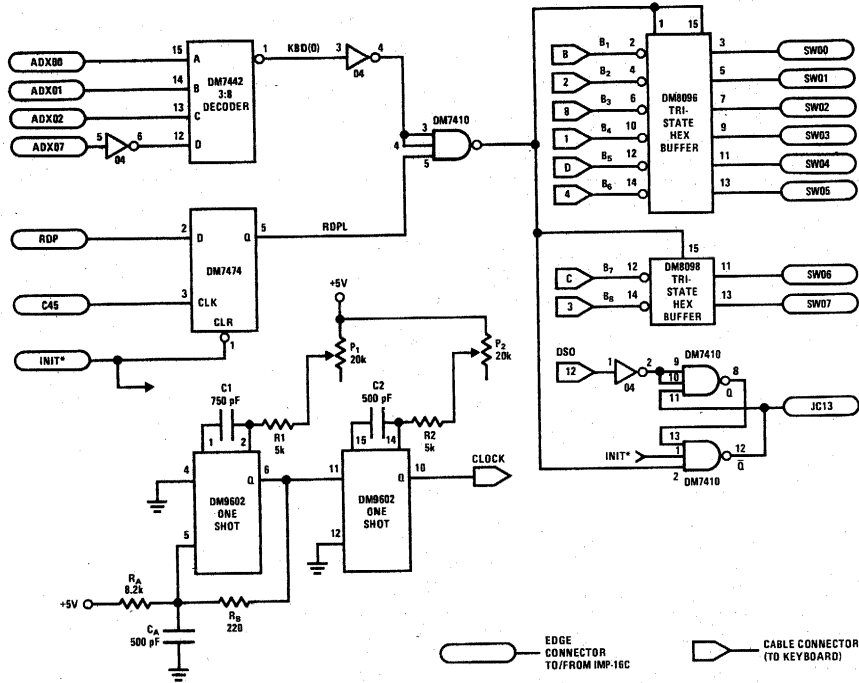
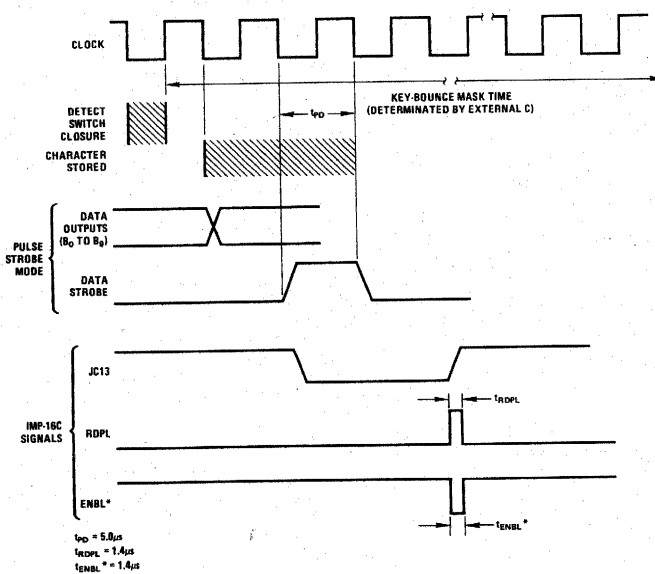

FIGURE 3. Text Editing Keyboard (TEK) Interface Logic for IMP-16C
FIGURE 4. MM5740/IMP-C Timing Diagram
In the following sample interface design the MM5740 chip and several discrete components are mounted on a communications keyboard. A cable from the 40 pin connector on the keyboard to an 8 1/2" x 11" interface board provides the physical communications link to the processor. The interface board has space available for components to implement a cassette and CRT interface for text editing applications. Pages of text could be stored as cassette records, called up by the keyboard and displayed on the CRT. Appropriate keyboard commands could be programmed to edit the page. Lines could be inserted, deleted, copied or moved as required. The finished page could be restored on the cassette. *Figure 3* is a schematic diagram of the keyboard interface logic board.
The BOC instruction is essentially a test for keyboard character ready. The data strobe output (DSO) from the keyboard (cable connector pin 12) is stored in a set-reset latch built from cross coupled NAND gates (see *Figure 3*). This is because the DSO pulse width is one clock period or 5.0µs and the processor might not detect DSO in the required time. Refer to *Figure 4* for IMP-16C/MM5740 timing. The complement output of the latch (Q) is connected to jump condition 13 (JC13). The BOC instruction tests for JC13 and branches to the PC relative address specified in the displacement field if the condition is true. Normally JC13 is true; when a key is pressed DSO goes high which forces Q low. The jump condition will then be false and the next instruction executed. This next instruction is a RIN 0 which takes the character from the keyboard encoder (B₁ to B₈) into AC0. Thus, this program is in a one-word BOC loop until a key is pressed.
The MM5740's clock input (CLK) is provided by a dual one shot (DM9602) connected as an oscillator. A 200 kHz square wave is generated using the logic shown in Figure 3.